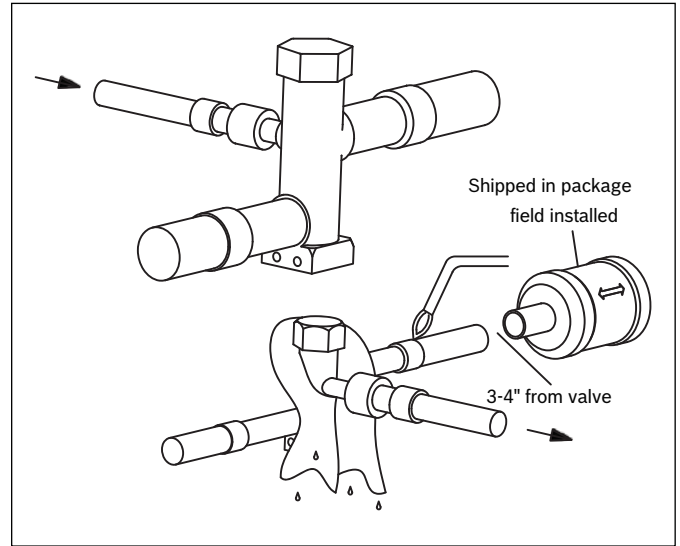

Figure 17
- Wrap a wet rag around the valve body to avoid heat damage and continue the dry nitrogen purge (Fig. 17).